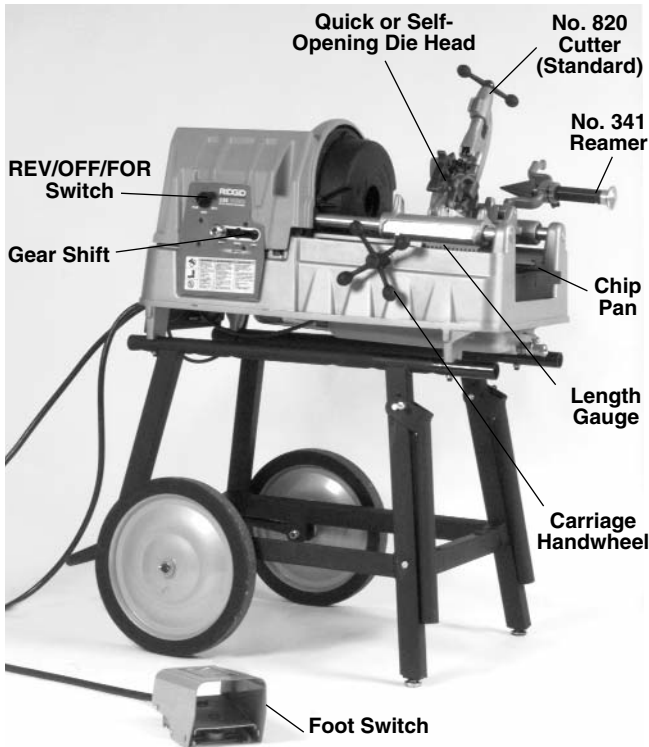

Figure 4 – No. 535 Automatic Pipe and Bolt Threading Machine
1. Make sure Threading Machine is unplugged and the control switch is set to the OFF position (Figure 4).
4. Make sure the foot switch is present and attached to the Threading Machine (Figure 4).